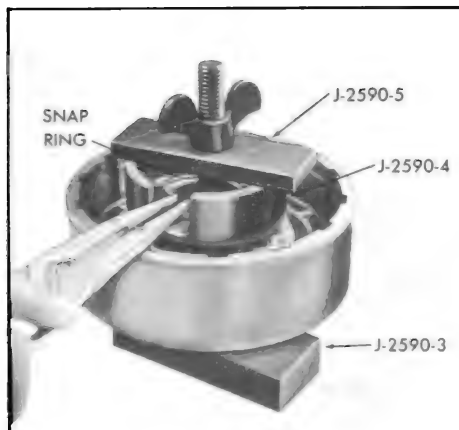

Figure 5-627
5. Using clutch compressor tool J-8765-1 and J-21409 or J-2590, compress spring retainer and remove snap ring. See Figure 5-627.